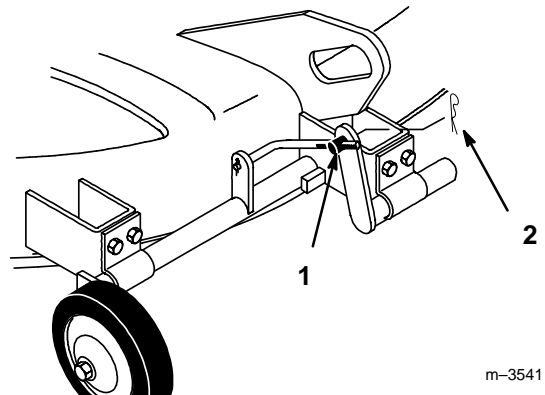

Figure 12
4. Raise attachment lift lever to release pressure on the gage wheels. Remove 1-7/16" hairpin cotter from trunnion (Fig. 12).
5. Rotate trunnion to adjust side-to-side level adjustment (Fig. 12).